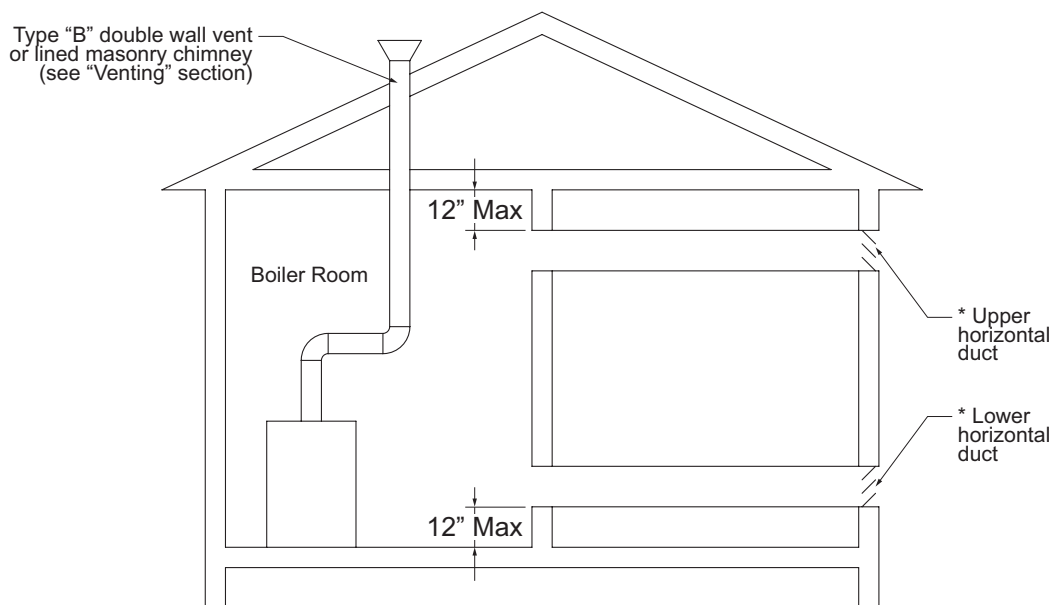

Figure 5.5 (Outdoor combustion air method: using horizontal ducts into boiler room)
- Openings to outdoors via horizontal ducts (Figure 5.5) - Each opening must have a free cross sectional area of 1 square inch per 2000 BTU/hr of the total input of all gas fired appliances in the boiler room. Minimum opening size is 3 inches.